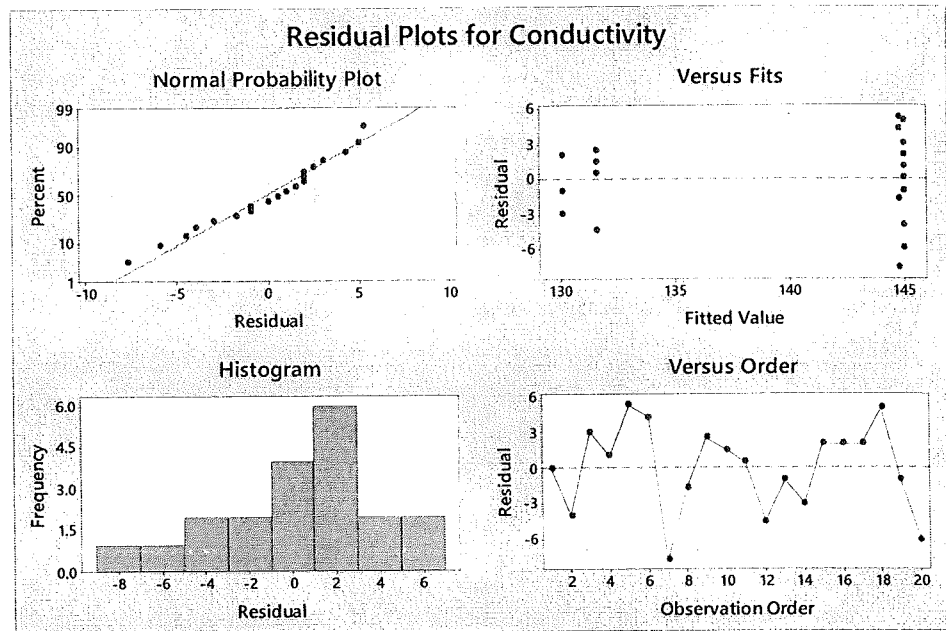

Figure 3: Residual plots
- (iv) From the residuals shown in Figure 3, are the basic ANOVA assumptions satisfied?